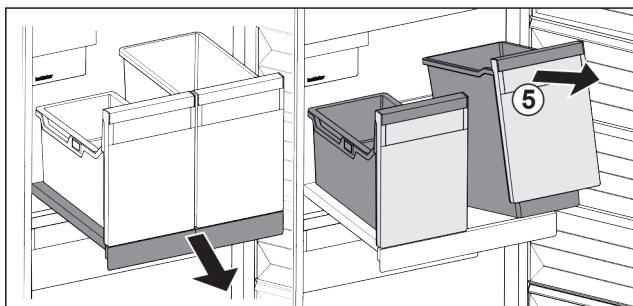

Fig. 96
- Lift the container Fig. 96 (5) at the front.